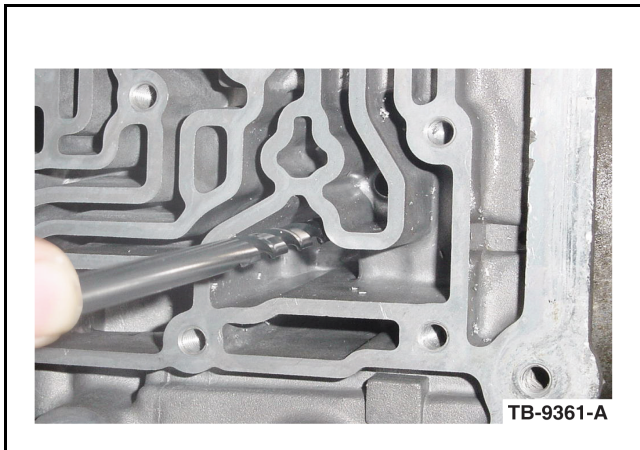

Figure 6 - Article 09-12-12
- a. Overdrive servo. (Figure 6)